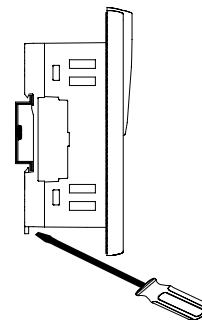

Figure 7. DIN-Rail Removal
2. To remove the unit from the DIN-rail, you must push down the mounting clip as shown in Figure 7. To enable this, the recommended clearance space is approximately 40 mm (1.58").